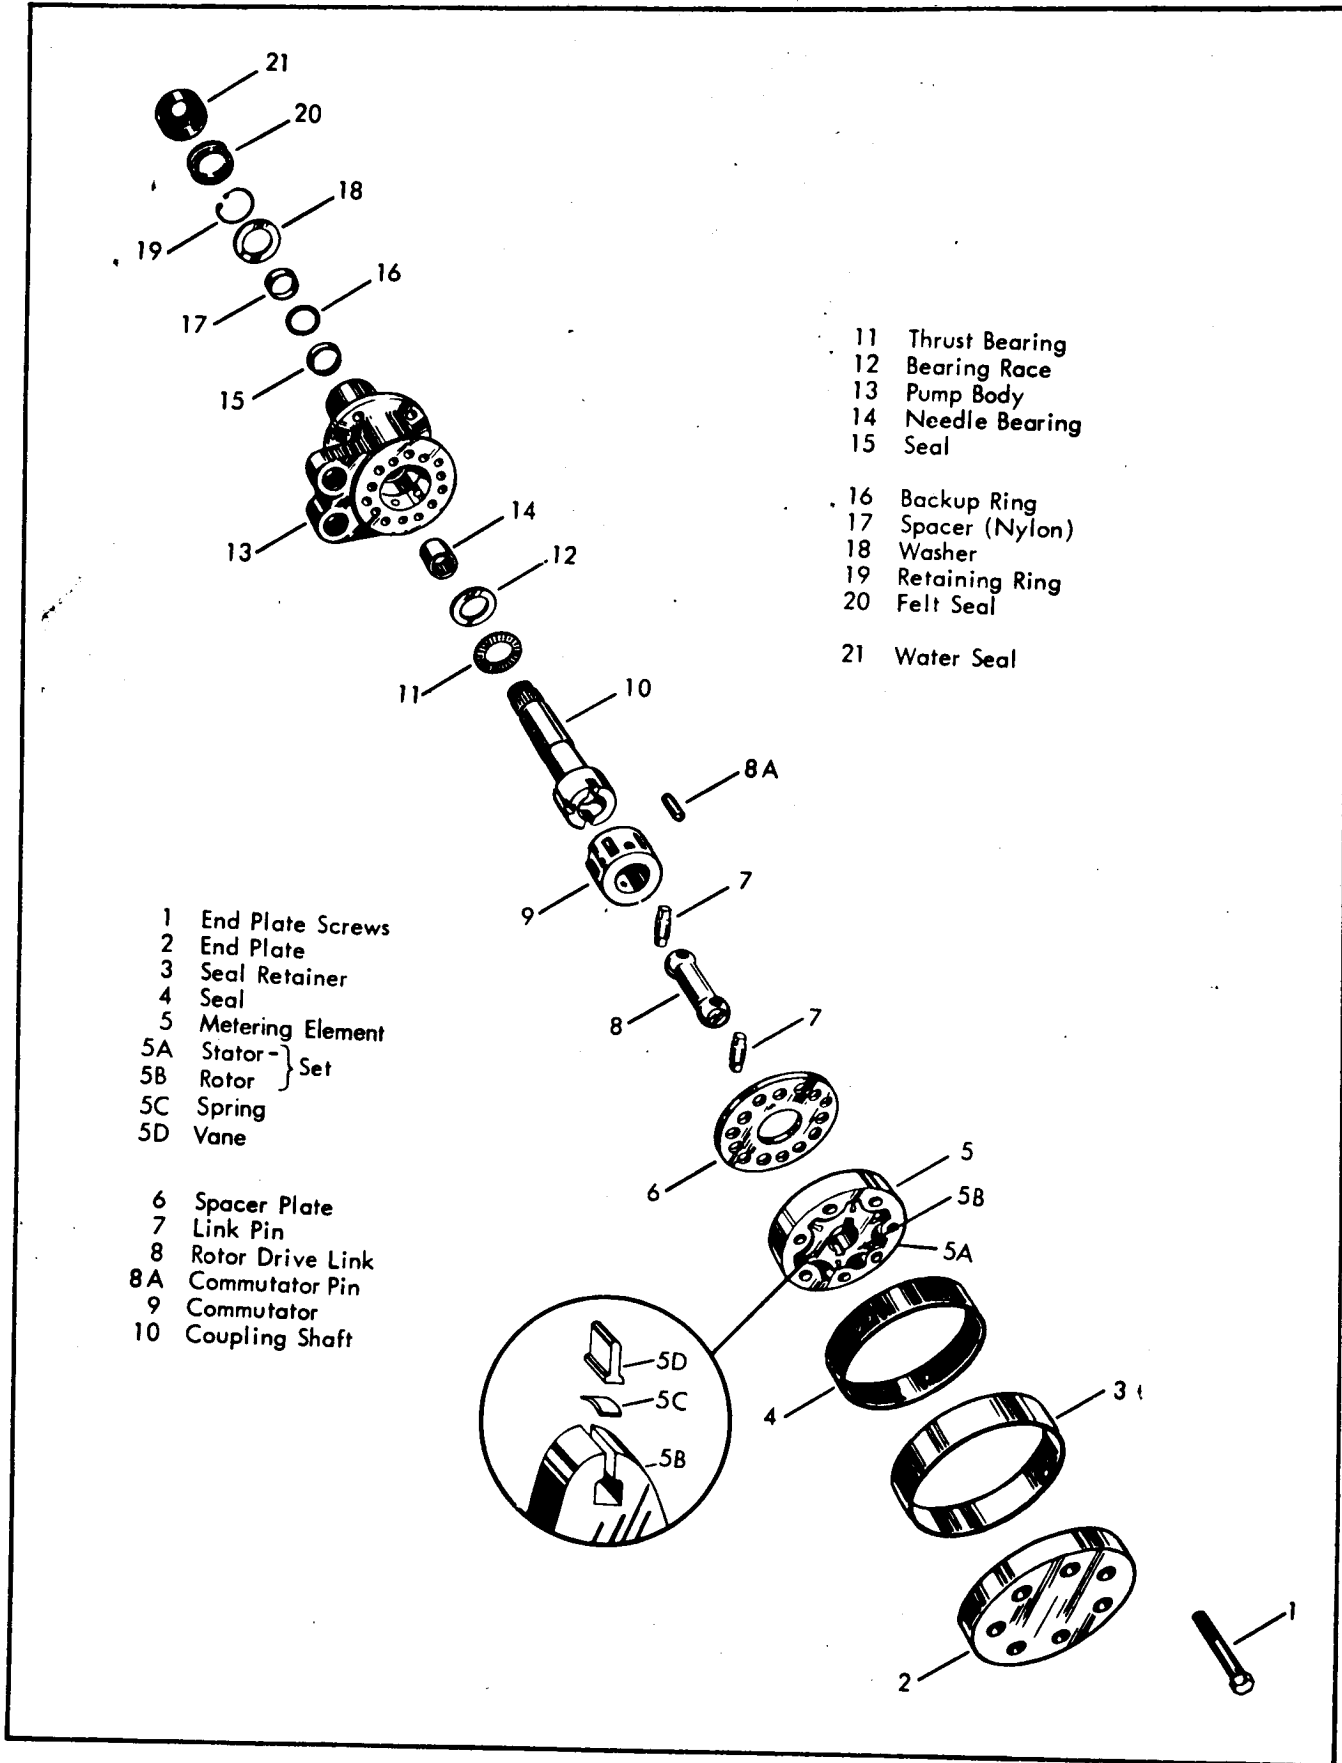

Fig. 3—Exploded View of Manual Pump
Numbers in parentheses refer to Fig. 3.
2. Remove water seal (21) and remove and discard felt seal (20).
3. Grip pump body (13) in a vise. Secure in vise across the mounting flange with the bottom end facing upward.
4. Remove bolts (1) securing lower end plate (2) to pump body (13).
5. DO NOT attempt to pry or hammer end plate (2) loose. The end plate should be gently bumped sideways with a soft hammer to loosen its connection with the stator. Wrap end plate (2) in plastic or waxed paper. Place masking tape or thick paper around O.D. of end plate (2) to protect edges.
6. Lift off seal retainer (3) with seal (4). It may be necessary to lightly bump the retainer (3) to loosen it. Protect edges against nicking and scratching.
7. Lightly tap stator (5) sideways to loosen its connection with the spacer plate (6). Wrap to protect against damage.
**INSPECTION** FIG. 3